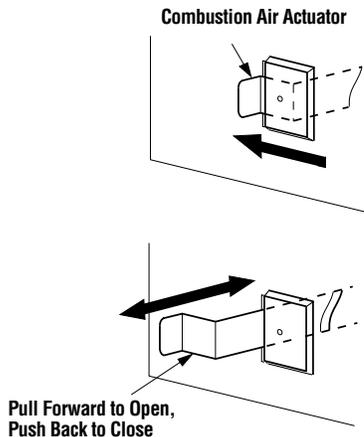

Figure 5
*Do NOT operate the actuator for combustion air (Figure 5) unless the complete system has been installed.*
To operate, push the end of the actuator arm to the left, as shown in **Figure 5**, until it "pops" free of its "locked" position.